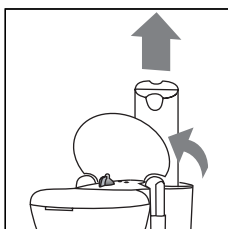

fig. 1
- Lift the water tank lid and remove the chlorine filter holder from its housing by lifting it upwards (fig. 1).